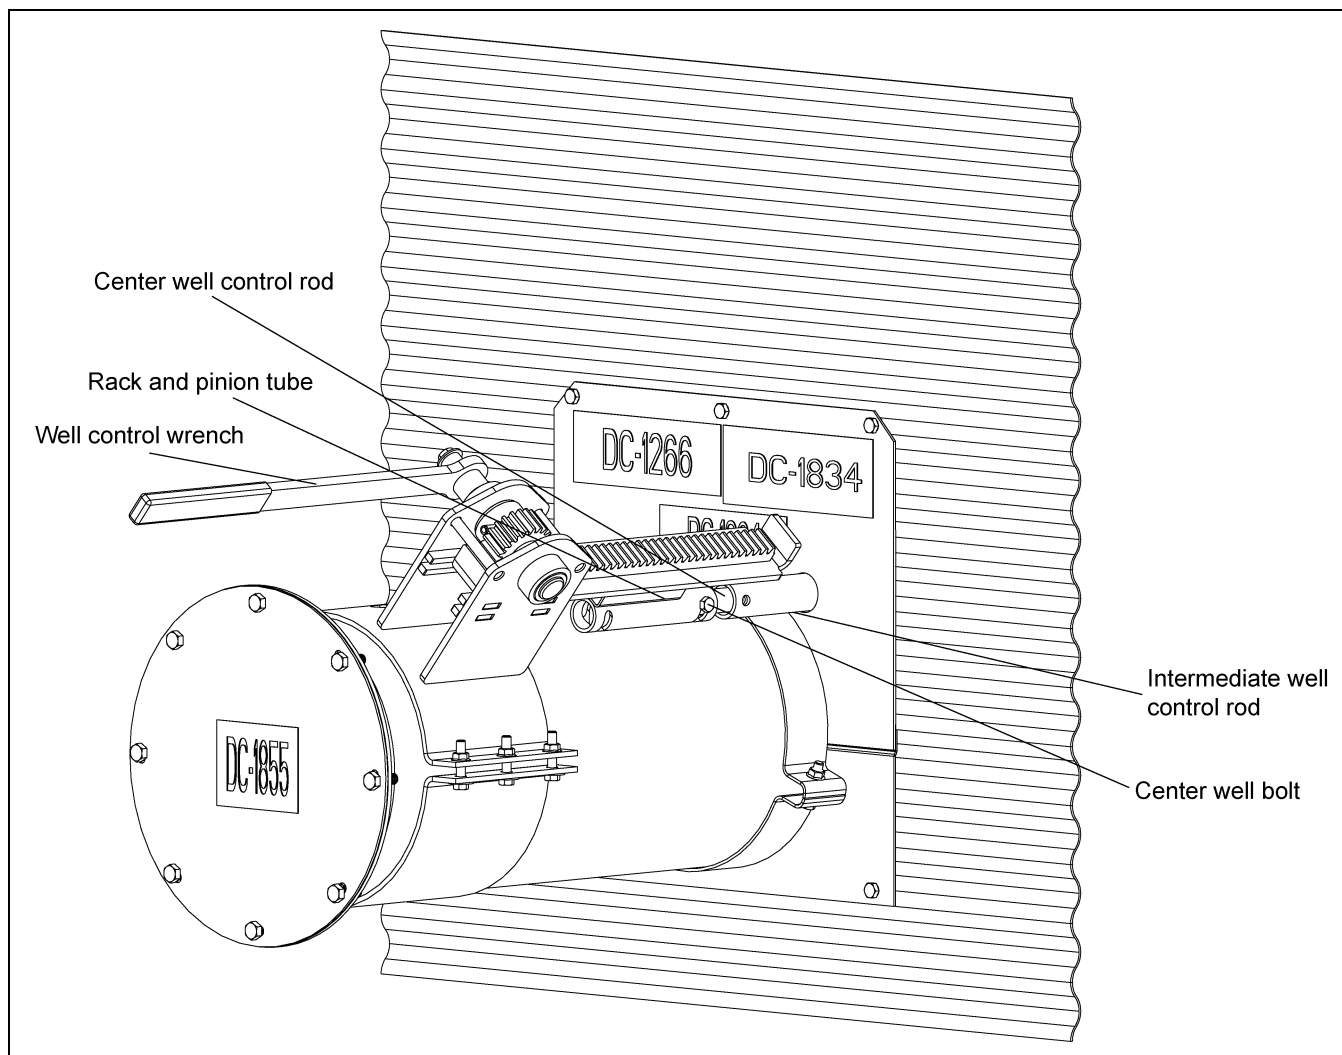

Figure 5G
2. Make sure the center well bolt is inserted through the rack and pinion tube and center well control rod. Make sure the intermediate well control rod is not attached to the center well control rod. (See Figure 5G.)